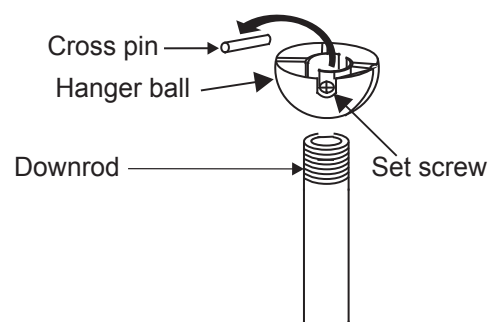

Fig. 8
**Step 6.** Remove the hanger ball from the downrod assembly by loosening the setscrew, removing the cross pin and turning the ball off the downrod. (Fig.8)